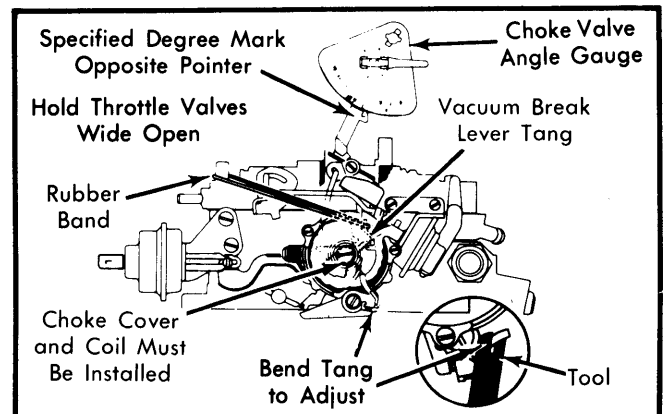

Fig. 8 Adjusting Choke Unloader
1) If removed, install choke thermostatic cover and coil assembly in housing, using special rivets in service kit. Hold throttle valves wide open. See Fig. 8.